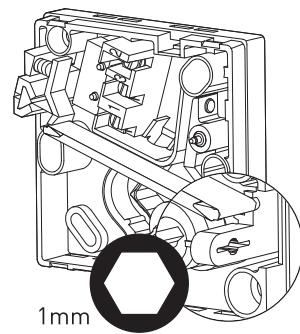

FIGURE 17: Calibration screw
4. Use an allen key (1mm) to adjust the humidistat on in the inside and turn the screw from high to low value until the humidistat triggers. "FIGURE 17: Calibration screw".